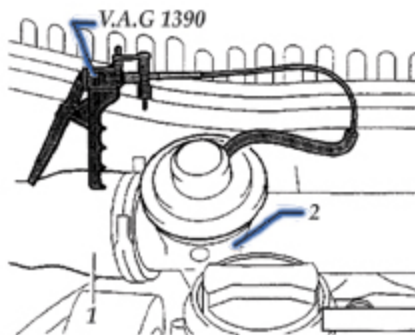

Figure 2
17. Remove the intake hose (see 1, Figure 2) at the EGR valve.